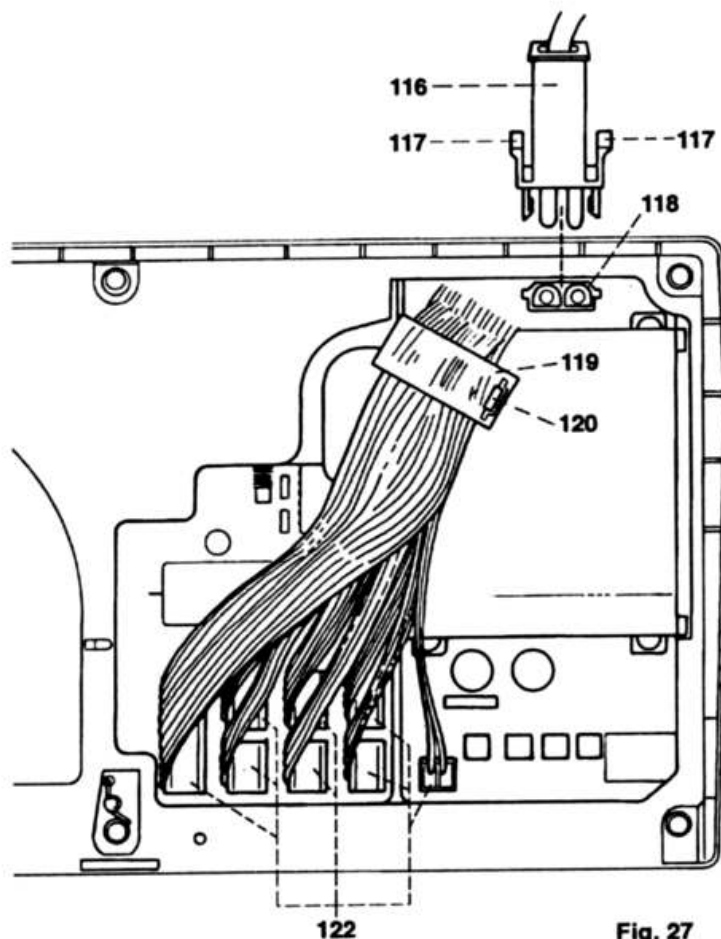

Fig. 27
- Disconnect plugs 122 of the eight flat wires from the circuit board (fig. 27).